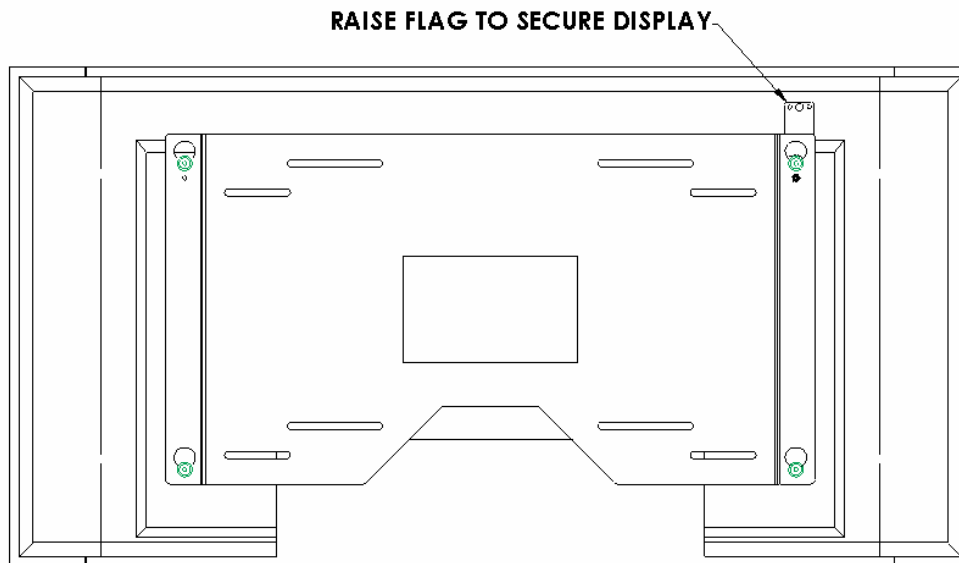

Figure 5
5. With the aid of another person, lift the display up to the mount, align the mounting buttons with the teardrop slots in the mount, and set the display into place (see Figure 5).